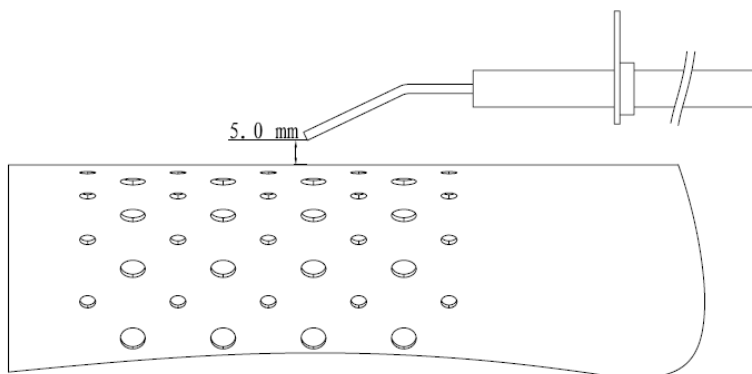

Fig.5
- Check the starting electrode position (see Figure.5).